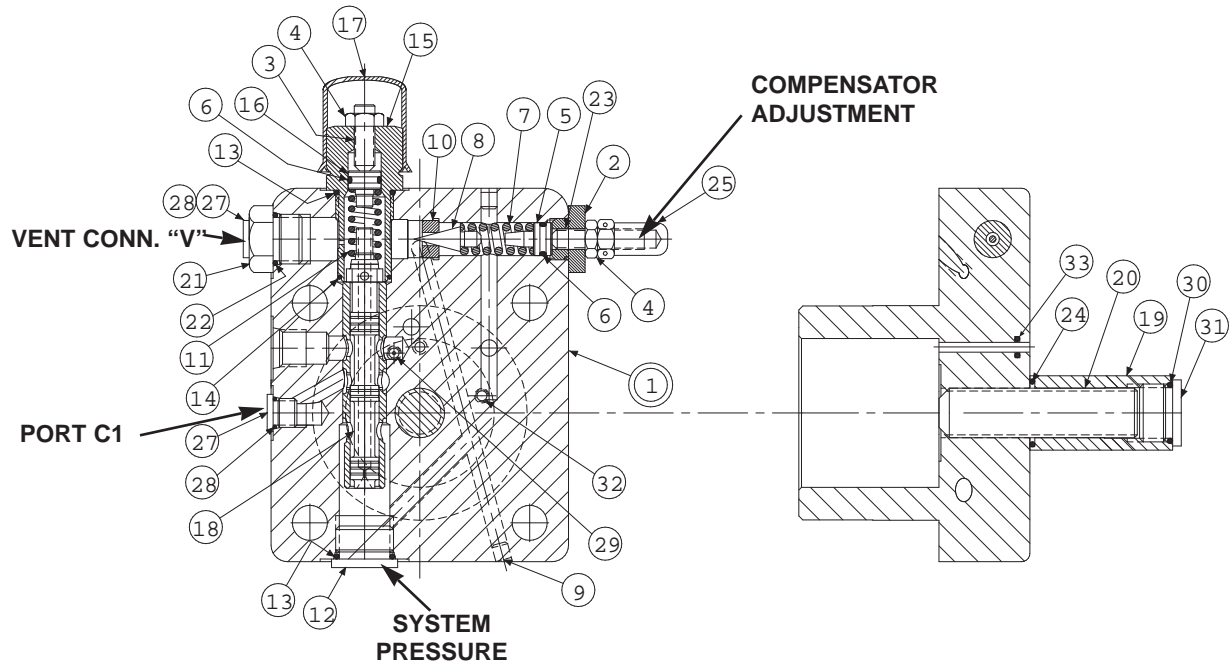
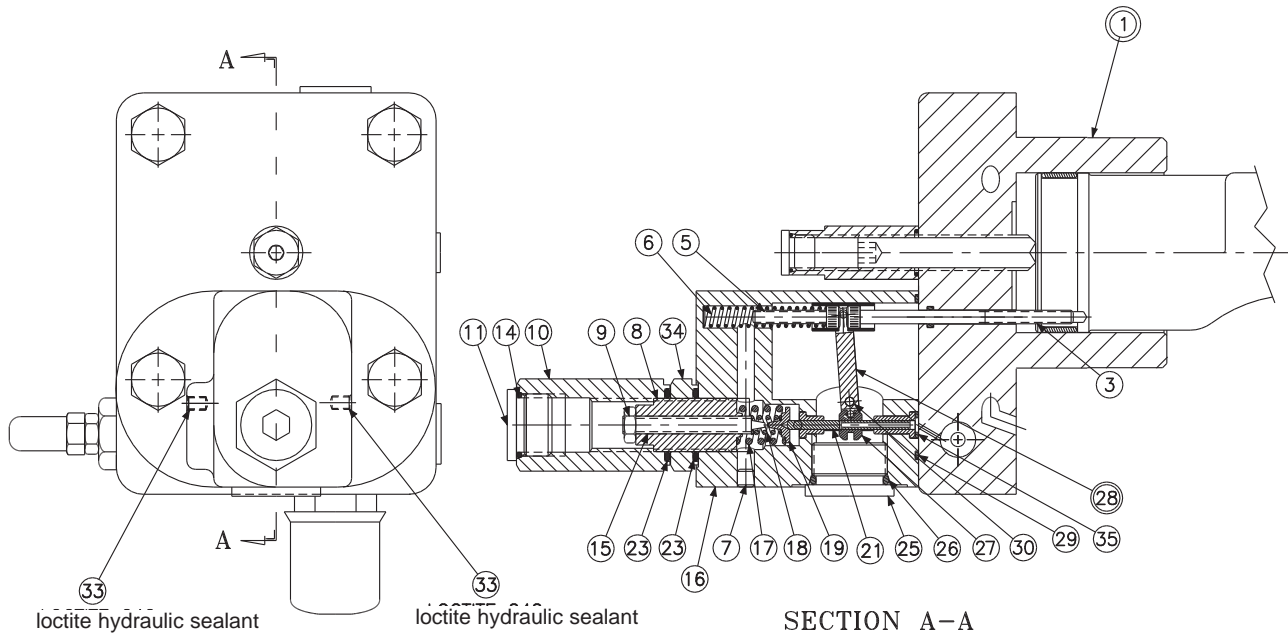

FIGURE 28
FIGURE 29
PARTS LIST FOR FIGURE 28
PARTS LIST FOR FIGURE 29
| 1 | Cap (Figure 28) | S22-15993 | S22-15994 | 1 | 1 |
1. See figure 29. Remove 2 screws holding torque limiter body (16) to cap assembly (1).
2. Remove all parts from torque limiter body (16) except pin (30) and arm assembly (28). It is not necessary to remove these parts unless broken or worn. Examine parts for wear or damage.
3. Remove screw (3). Examine head for excessive wear, and body for smooth sealing surface with O-ring.
4. See figure 28. Remove maximum volume stop assembly (items 19, 20, 24, 30, 31).
5. Remove cap assembly (1).
6. Remove plug (15) and attached parts. Remove spring (11) and spool (18).
7. Remove adjusting plug (2) and attached parts. Remove seal piston (5). Note: a 10-24 screw may be attached to assist in pulling the piston. Remove spring (7) and cone (8).
8. Do not remove sleeve in body (1). Sleeve is pressed into cap and finished to size. If sleeve, snout or cap is worn, replace the cap-sleeve assembly (1).
9. Examine seat (10) for wear. Do not remove unless damaged.
1. See figure 28. Install Avseal plugs (9) orifice (29) and screw (32).
2. Press seat (10) into bore squarely against shoulder in bore.
3. Install spool (18) into bore as shown. Install spring (11) over end of spool. Install O-ring (6) on seal piston (16). Lubricate and install into plug (15). Install O-rings (13) and (14) on plug (15) Install plug (15) into cap. Install screw (3), nut (4) and acorn nut (17).
4. Install O-ring (6) on seal piston (5).
5. Lubricate O-ring and install cone (8), spring (7) and seal piston into bore in cap (1), being careful that cone enters seat (10). Install adj. plug (2), screw (25), nut (4), and acorn nut (25).
6. Install plugs (12), (21) and (27) and torque.
7. Carefully install O-ring (33) into the cap.
9. Install maximum stop screw (20), cover (19), O-ring (24) and plug (31) with O-ring (30).
10. See figure 29. Apply Loctite 242 on threads of screw (3), lubricate the shank, thread through the cap into the control piston, and torque to 5 lb.*ft., 6,78 Nm.
12. Press dowel (30) into body (16), through the link assembly (28), to 1/4", 6,35 mm below surface. Apply Loctite hydraulic sealant® to threads of screws (33) and install over dowel (30).
13. While sleeve (27) is engaged into dowel on link (28), slide spool (21) into bore of body (16), and through sleeve (27). Spool (21) must move freely and easily at all positions of the link (28).
14. Assemble remaining parts per drawing. Torque plug (11).
15. While spring retainer is engaging screw (5) under dowel of link (28), slide the other opening of spring retainer over the top of the screw (3). Attach body assembly (16) to cap (1) and torque assembly screws to 75 lb.*ft., 102 Nm.